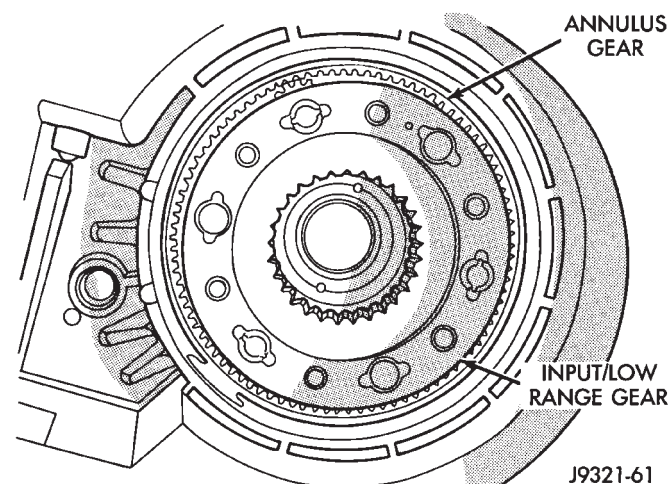

Fig. 64 Input/Low Range Gear Installation
(5) Install retainer on input gear and install snap ring.
(6) Align and install low range-input gear assembly in front case (Fig. 64). Be sure low range gear pinions are engaged in annulus gear and that input gear shaft is fully seated in front bearing.